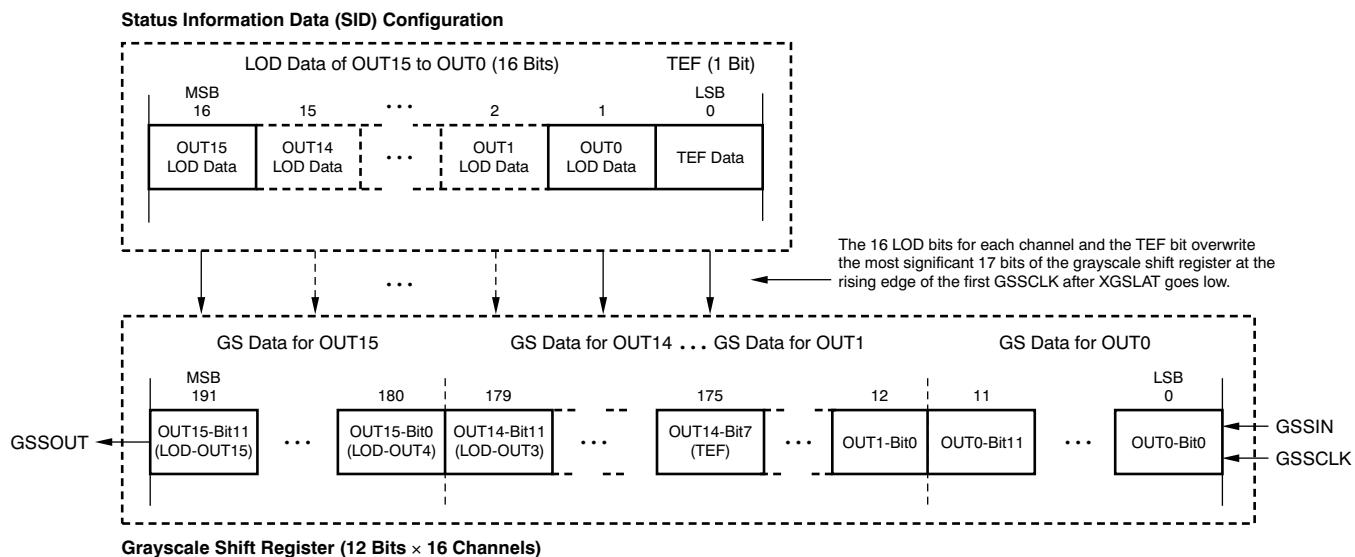

**Figure 23. Dot Correction Shift Register and Latch Configuration**
The Dot Correction (DC) Shift Registers and latches are each 112 bits in length and are used to individually adjust the constant current values for each constant current driver. Each channel can be adjusted from 0% to 100% of the maximum LED current with 7-bit resolution. Table 2 describes the percentage of the maximum current for each dot correction data. See Figure 23 for the Dot Correction Shift Register and data latch configuration. Figure 10 illustrates the timing chart for writing data into the DC Shift Registers and latches. Each channel LED current is dot-corrected by the percentage corresponding to the data in its DC data latch. DC data present on the DCSIN pin are clocked into the DC Shift Register with each rising edge of the DCSCLK pin. Data are shifted in MSB first. The data are latched from the shift register into the DC data latch with a rising edge on the XDCLAT pin.